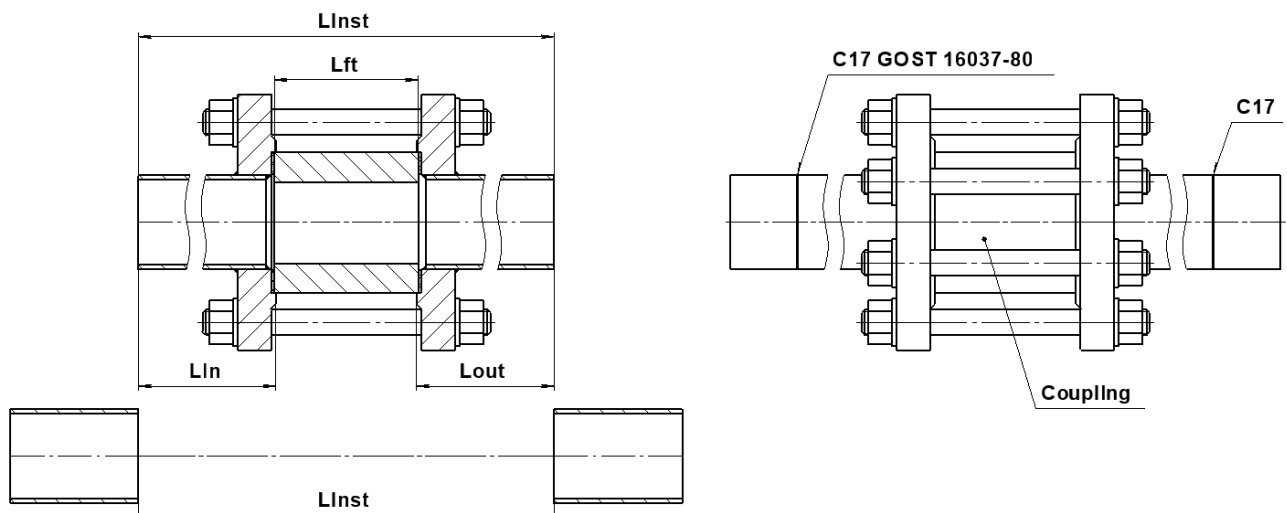

Fig.2.10 - Installation of coupling with straight sections
2) cut off pipeline section =  $L_{inst}$  length (figure 2.10).
3) use studs and nuts to assemble straight sections and coupling and weld them to the pipeline as shown in figure 2.10.